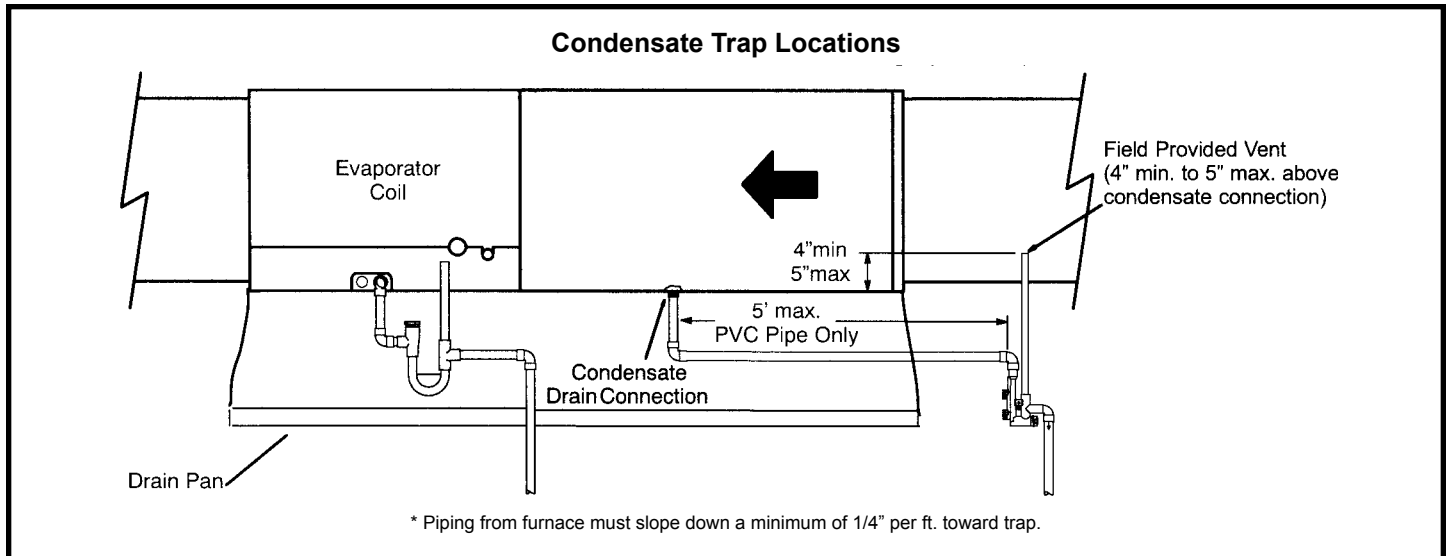

Figure 53
**Horizontal furnace (Figure 53)** - In horizontal furnace applications the field provided vent must be minimum 4" to a maximum 5" length above the condensate drain outlet connection. Any length above 5" may result in a flooded heat exchanger if the combined primary drain line were to become restricted.